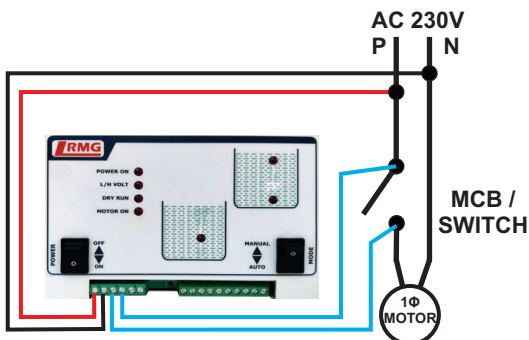
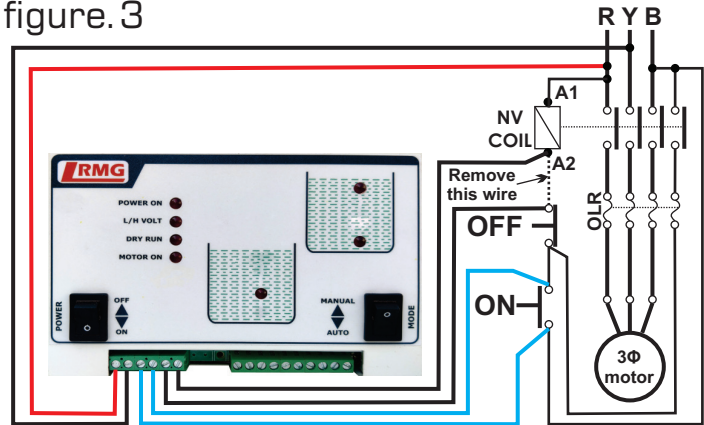
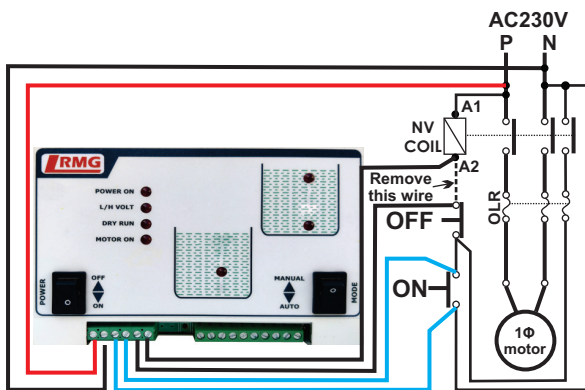

Figure1: 1Φ SWITCH/MCB
Figure2: 3Φ Starter
Figure3: 1Φ Starter
Step 2: As per the model purchased, check the label and connect AC supply (230V / 440 V) to 1st and 2nd terminal of the controller (red and black wire) refer figure 1 and figure 2.
Step 3: For switch or MCB, Connect 3rd and 4th terminal of the controller (blue pair wire) to the switch/MCB of the motor in parallel as shown in figure 1.
Step 4: For starter, Connect 3rd and 4th terminal of the controller (blue pair wire) to ON button of starter in parallel and 5th and 6th terminal (black pair wire) to OFF button in series (Refer to figure. 2 and figure. 3)